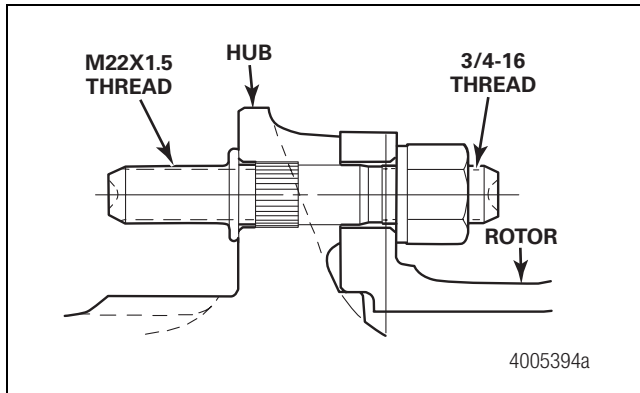

Figure 13.46
- Tighten the inner 3/4-16 nuts to 100 lb-ft (136 N•m) to seat the wheel studs. Figure 13.46.